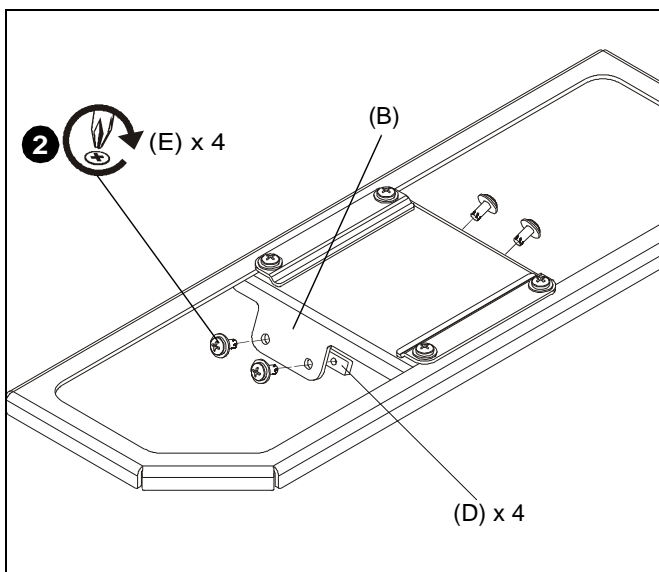

Figure 2
2. Loosely install remaining four #10-24 x 7/16" Phillips screws with captured washers (E) through guard base (B) holes and into four slide nuts (D). (See Figure 2)